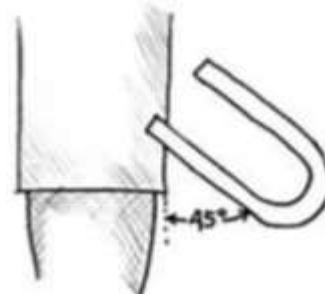

Figure 9: Starting the scarf of a chain link
- a. Half-face blows while holding the link at a 45° angle to the anvil edge as shown in figure 9.